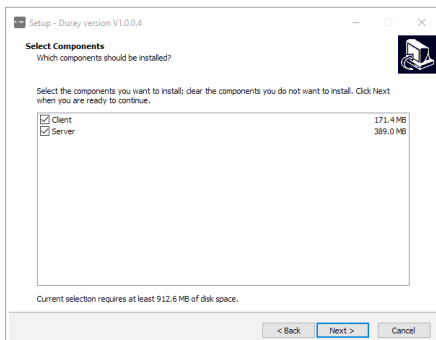

Figure 6
d) Select components. The user selects the corresponding component as needed, and then click the "Next" button, as shown in Figure 6: